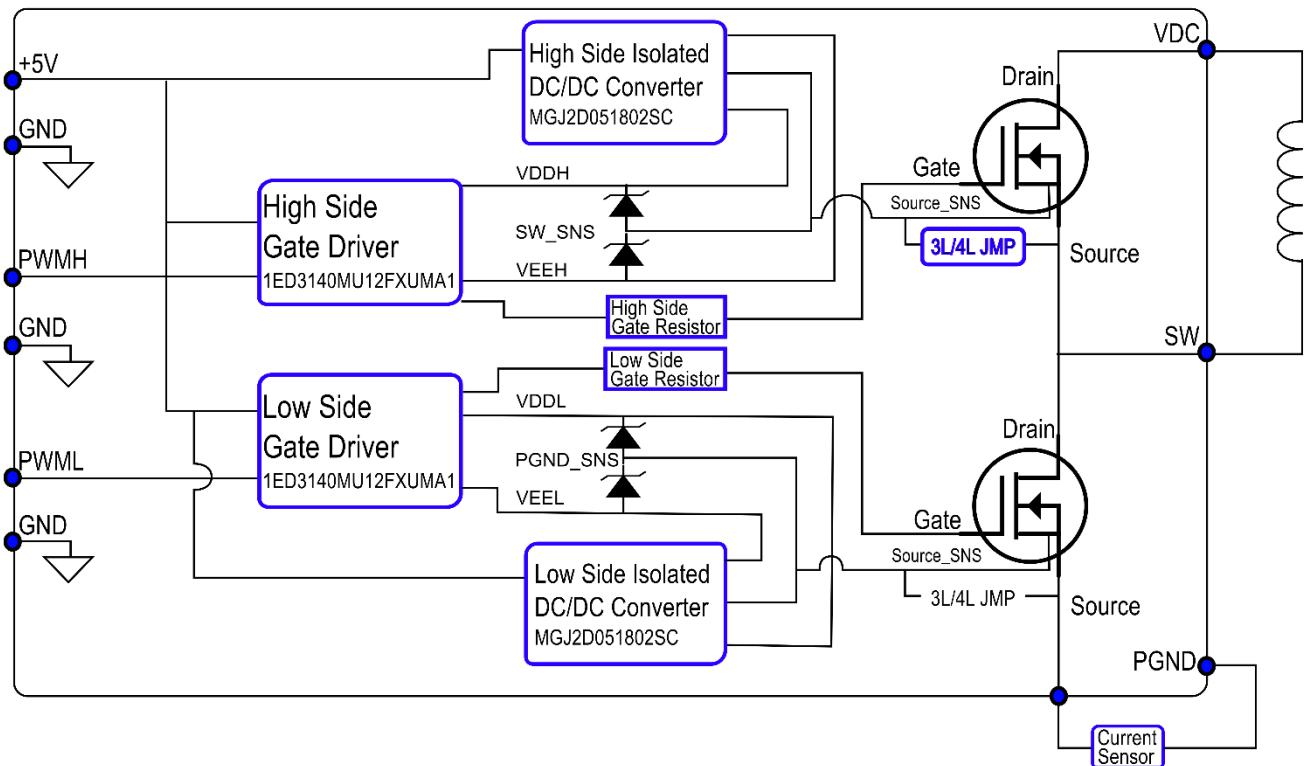

Figure 3: DPT evaluation board block diagram. Inductor and current sensor are external (not included).
**Figure 3** shows a block diagram of the board circuitry.
**Table 2:** List of important board components that are labeled in **Figures 3** and **4** with a detailed description of their functionality.